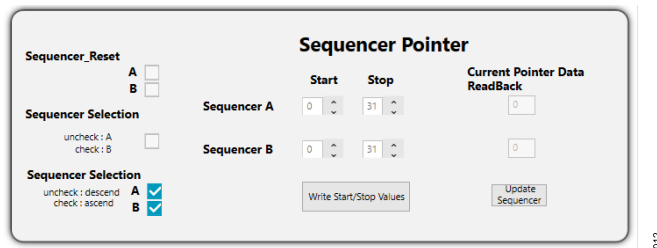

Figure 12. Sequencer Configuration Subview
- ▶ **Sequencer Configuration** (seen in Figure 12).
Click **Sequencer Configuration** in the main GUI to open the **Sequencer Configuration** subview shown in Figure 12. This subview allows a user to reset Sequencer A and Sequencer B (**Sequencer_Reset**), select Sequencer A or Sequencer B as the active sequencer (**Sequencer Selection**), set the active sequencer direction (**ascend** or **descend**), and set the **Start** and **Stop** for each **Sequencer Pointer**. To apply the sequencer settings, click **Write Start/Stop Values**. Click **Update Sequencer** to advance the active sequencer to the next TDU and DSA state in the register memory.